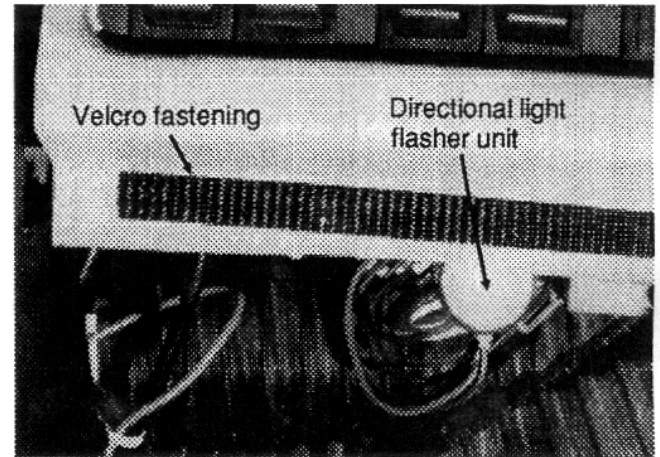

Figure 8
18. Remove the moulding located at right of the steering column and held in place by a Velcro fastening (see figure 8).